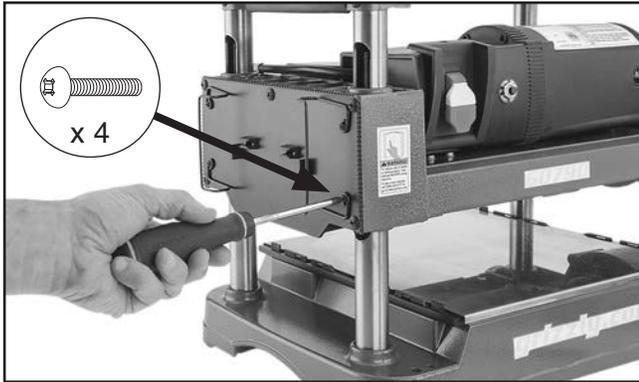

Figure 9. Cord wraps installed with #2 Phillips head screwdriver.
- Position (2) cord wraps over pre-drilled holes in planer cabinet (see **Figure 9**), and secure with (4) M4-7 x 10 Phillips head screws.